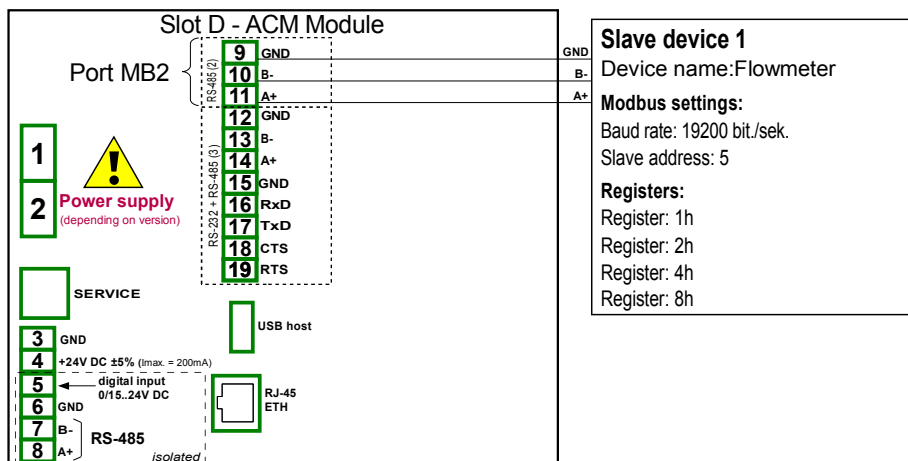

Fig. 7.126. Connection diagram for the Modbus port MB2
First we need to configure the device according to the following recommendations, then connect the device according to **Fig. 7.126**.
- using the arrows in upper right corner choose **Port number: 1 (MB1)** in accordance with **Fig. 7.126**),